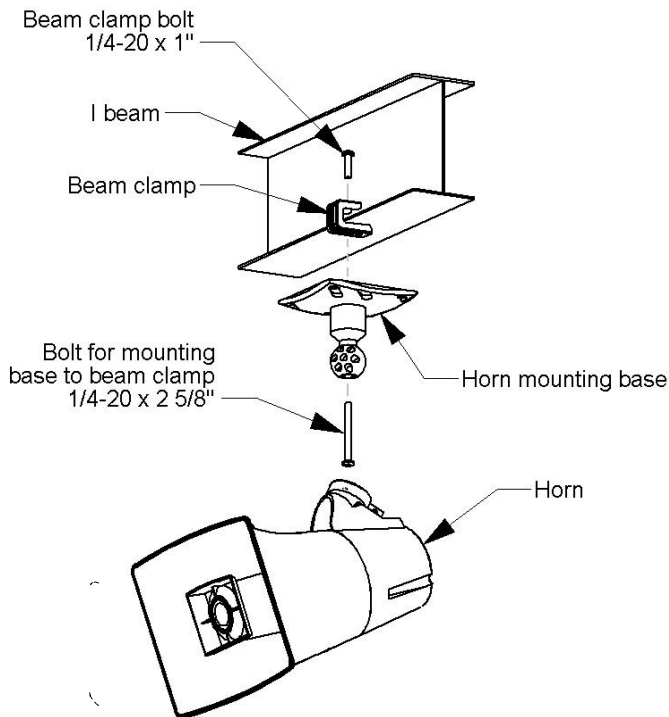

Figure 1. Mounting to a Beam with a “C” Clamp
- A "C" clamp is provided with the horns to allow mounting to a beam. When using the "C" clamp for mounting, remove the signal cable from the ball mount. Reinstall an RJ45 connector on the signal cable after mounting, using the T568B pinout scheme. See Figure 1.